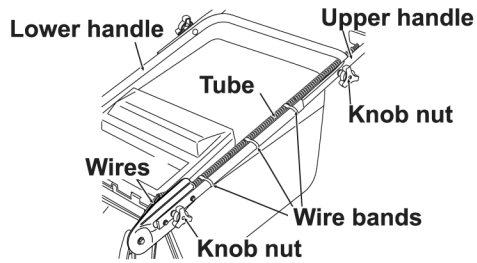

Fig. 1
1. Install the lower handle to the machine (with 2 knob nuts). (See Figs. 1 and 2)